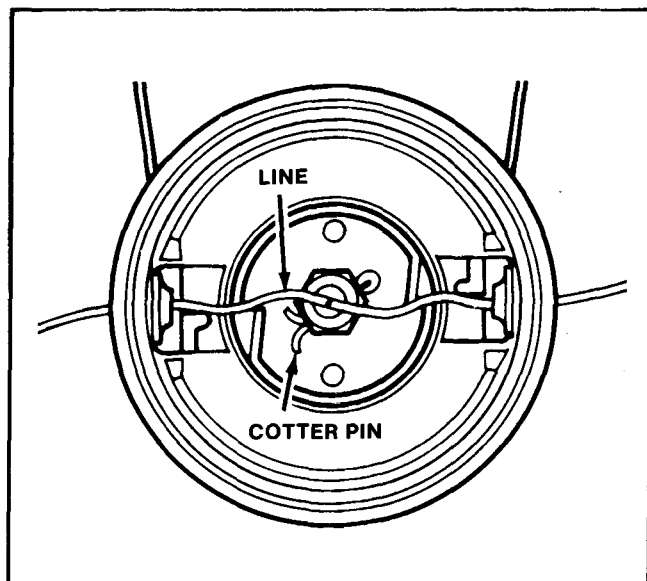

Figure 146
3. Thread the line through the cutter head guides as shown in Figure 146. Make sure that the centerline mark lines up on the cutter head shaft.